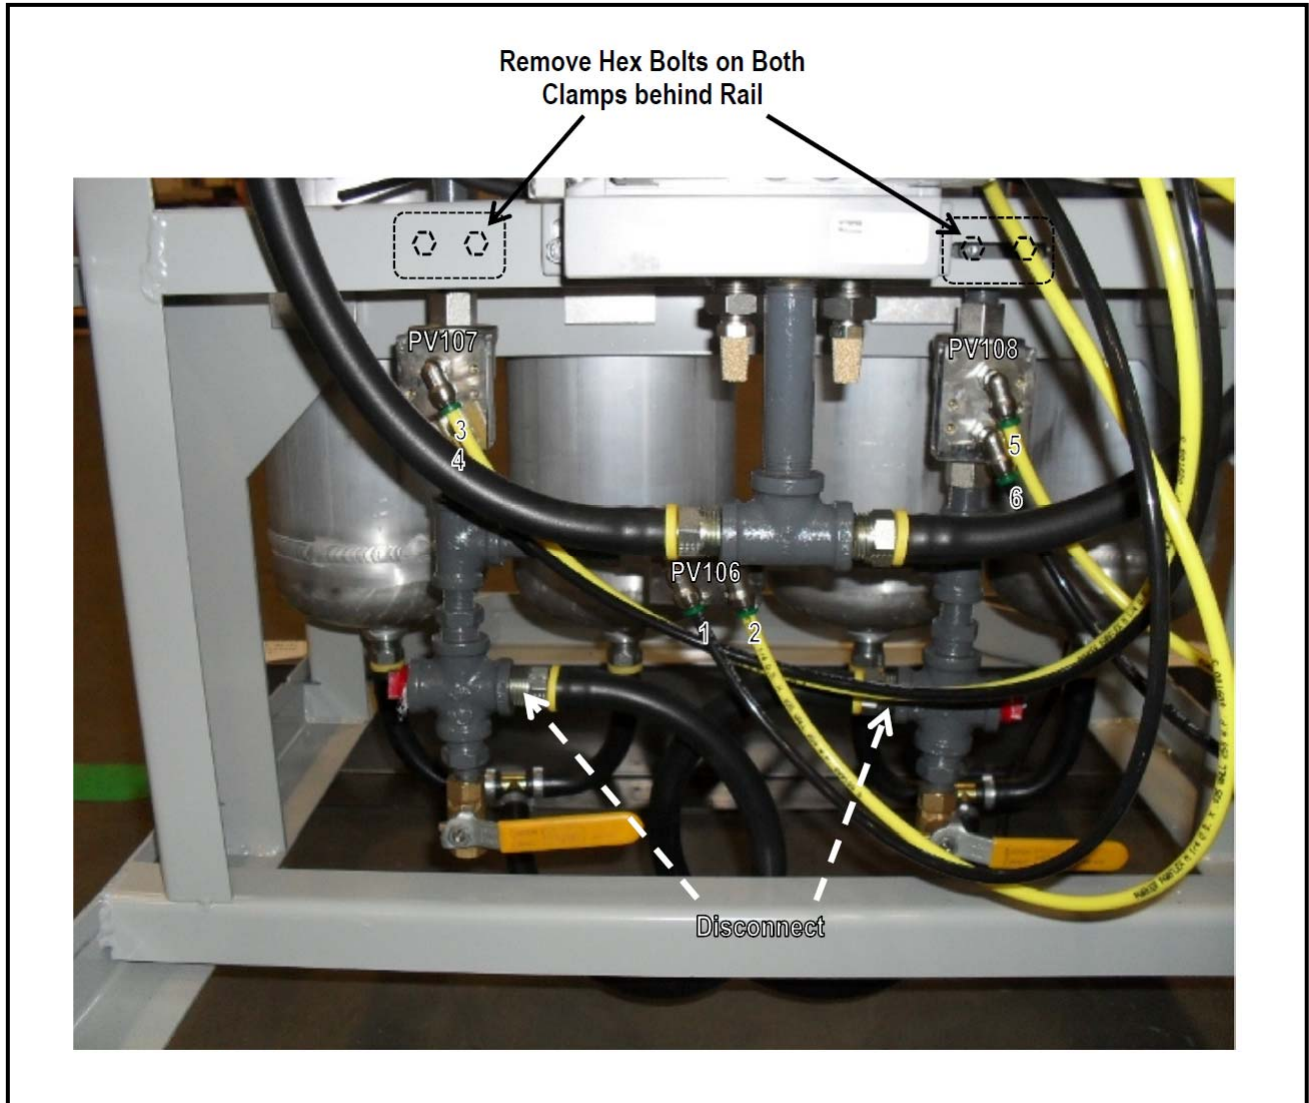

Figure 14: AGS200/400 Lower Manifold - Label All Tubing Connections
- i. Disconnect rubber hose fittings at three places (Figure 14):
- iv. While supporting the manifold, remove clamp hex bolts that secure manifold (Figure 14).